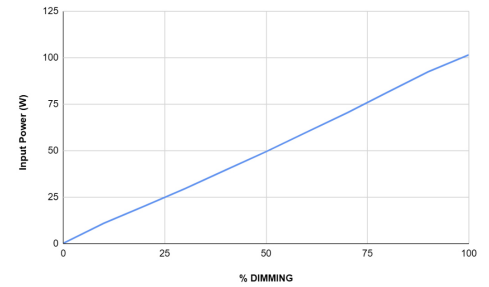

FIG. 31
14. The performance graph (Fig. 31) shows the expected dimming response curve. This measurement was taken using five 20W AQL-882 fixtures (100W total) and represents typical performance.